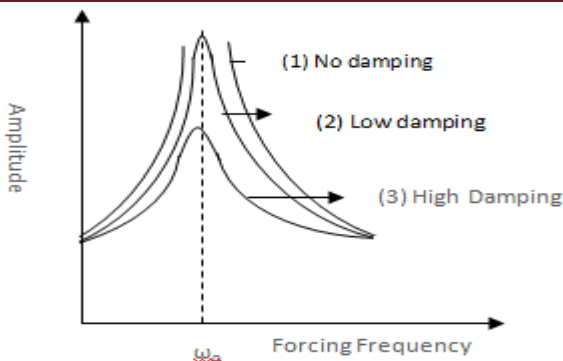

Figure 7: Effect of damping on sharpness of resonance
Figure 7, shows the variation of amplitude with forcing frequency for different amounts of damping. Curve (1) shows the variation of amplitude when there is no damping i.e., $b=0$. In this case the amplitude is infinite at $\omega_d = \omega$. This case is never realized in practice due to friction/dissipation forces, as a slight damping factor is always present. Curves (2) and (3) show the variation of amplitude with respect to low and high damping. It can be seen that the resonant peak moves towards the left as the damping factor is increased. It is also observed that the value of amplitude, which is different for different values of b (damping), diminishes as the value of b increases. This indicates that the smaller is the damping, sharper is the resonance or large is the damping, flatter is the resonance.